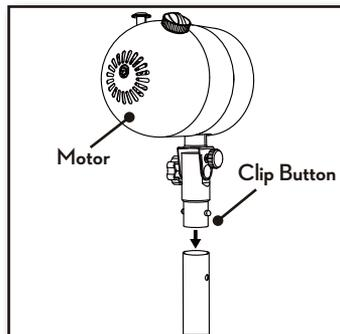

Figure 9
1. Press the clip buttons in completely while sliding the pole from the motor housing assembly into the inner pole until the clip buttons appear through the hole in the inner pole. Figure 9.